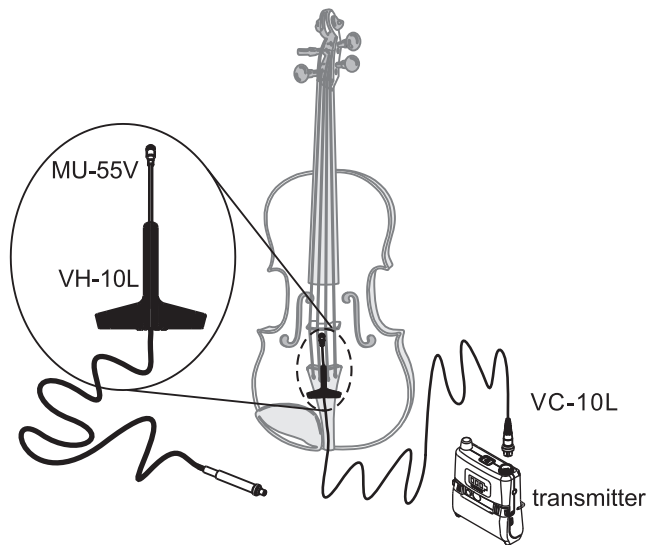

Fig. 37
13. Transmitter Installation, Fig. 37:
- (A) Put the MU-55V microphone and the VH-10L holder together, and then install it on the tailpiece of the violin / viola.
- (B) Connect it with a VC-10L cable to the transmitter.